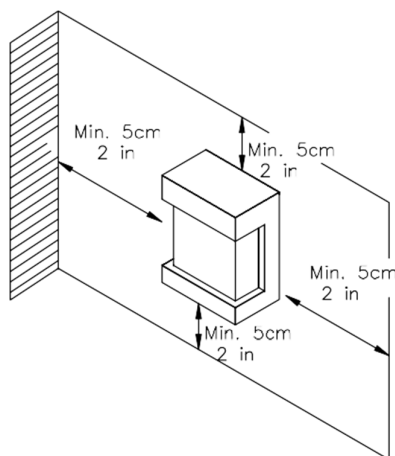

Fig. 1
2. Select a suitable position in which to mount the heater horizontally – use a spirit level to achieve this (Fig. 1).